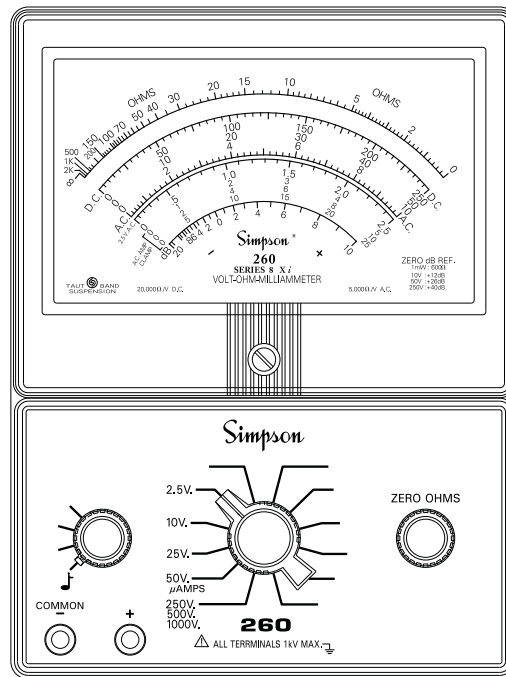

Figure 4-13. Jacks and Switch Positions for Continuity Tests
- Set the FUNCTION switch to the “ Ω .” Insert the black test lead into the COMMON (-) and the red test lead into the (+) jacks, (Figure 4-13).